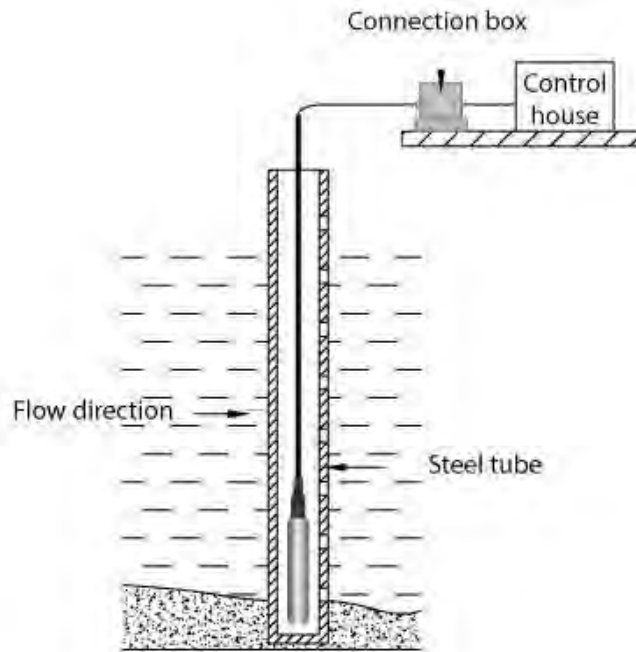

Fig. 3
- a. Method One: Insert a steel tube in the water channel (Fig 3).